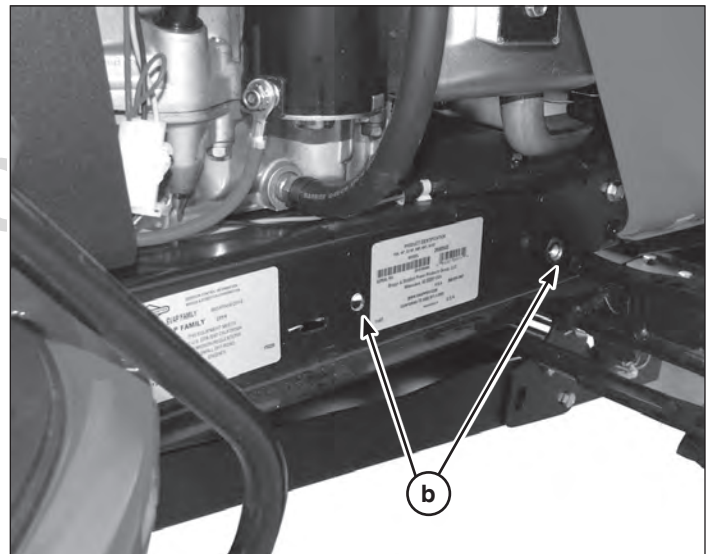

Figure 16
2. On the right side of tractor frame identify holes (**b**, Figure 16) that will be used to secure the lift support assembly.